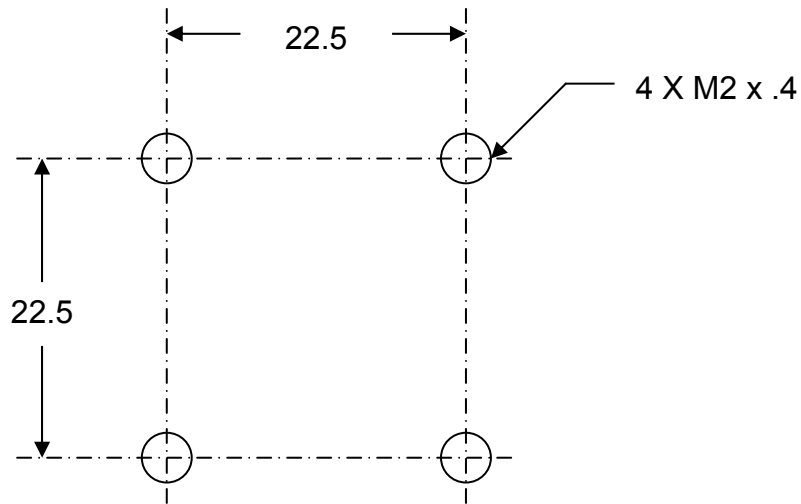

Figure 2B. LCG50 Tap and Drill Pattern
7. If metric screws are preferred, use a size M2, metric screw of your choice. Drill and tap 4 mounting holes in accordance with Figure 2B. Metric screws are not supplied with the LCG50.